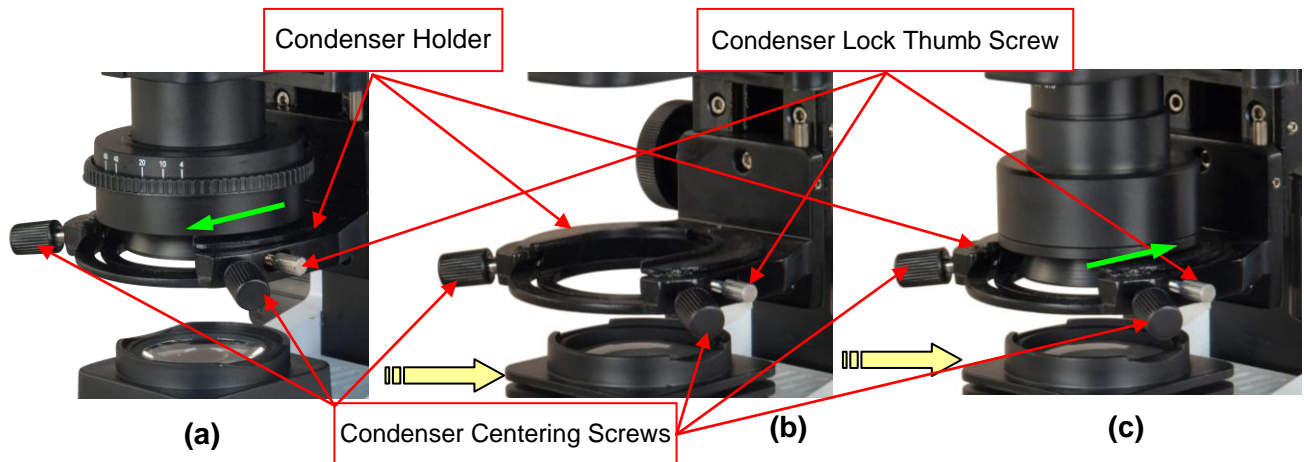

Fig.10
- Loosen the condenser lock thumb screw on the condenser holder and remove the brightfield condenser as shown in **Fig. 10 (a)**.
- Install the dry darkfield condenser and tighten the condenser lock thumb screw on the condenser holder as shown in **Fig. 10 (c)**.